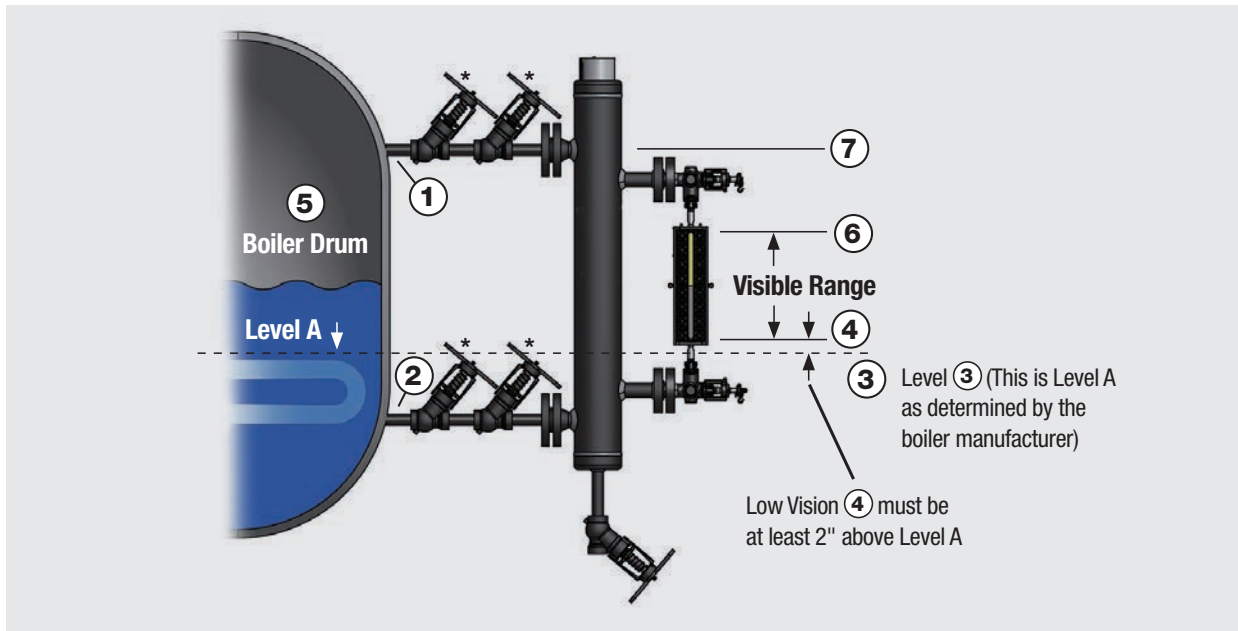

Figure 1: Illustration to establish the proper limits for a Gage Glass
Successful installations require attention to detail. When specifying and installing a Magnetic Level gage on a Power Boiler application, the ASME Boiler Code requirements are very specific with respect to the position limits of the indication scale relative to the vessel connections. The indication range must meet the same requirements as a gage glass (see Figures 1 & 2). These ASME Section 1 Code requirements are significantly different when compared to the vast majority of Magnetic Level Gages installed on applications other than Power Boilers.
2. The indication scale limitations are between 2 inches above the danger point, as determined by the boiler manufacturer and the low side of the outside diameter of the steam connection exiting the drum, as identified by locations 1 & 4 in Figures 1 & 2.